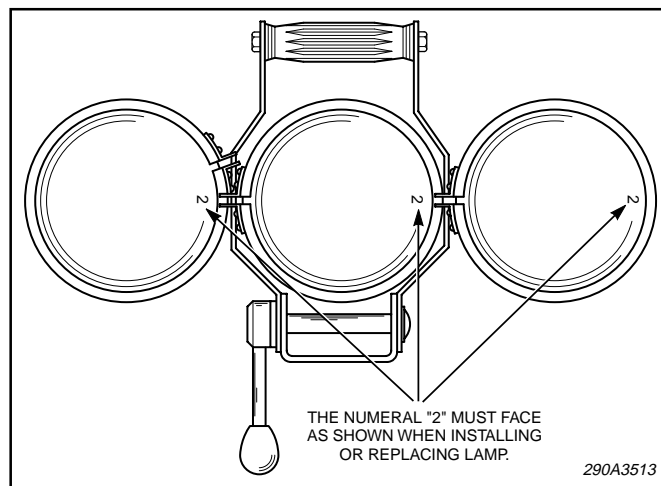

Figure 4.
4. When installing a replacement lamp, ensure that the numeral "2" cast into the front of the lamp is to the right when the lamp is viewed from the front (see figure 4). Then, make sure the bosses on the edge of the lamp engage the notches on the front edge of the lamp housing.